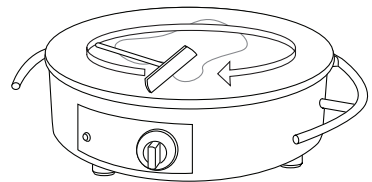

Fig. 1
5. Spread the mixture in a circular motion around the hotplate with the spreader **[Fig. 1]**.